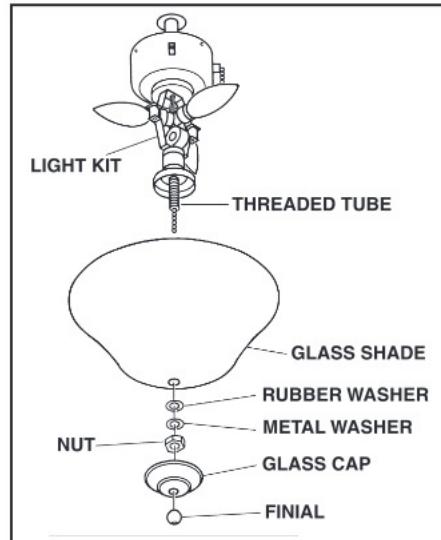

FIG. 21
Step 6. Install the glass shade onto the light kit and secure with the rubber washer, metal washer, knurled nut, glass cap and finial. ( Fig. 21).